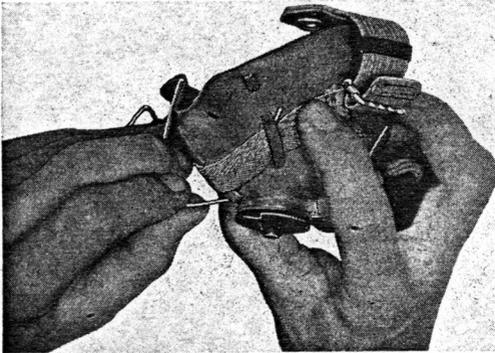

Fig. 5.—Fitting a nose wire
10. It will be found occasionally that an improved fit can be obtained by adding a wire of 16 s.w.g. phosphor-bronze. The method of inserting the wire is shown in fig. 5.